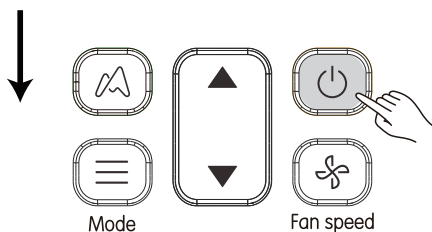

Figure 4.2
② Press  and  to adjust the parameter value;
③ Once the adjustment is done, press  or wait for 5 seconds to save the parameter settings. The operation sequence for the button is as shown in Figure 4.2.